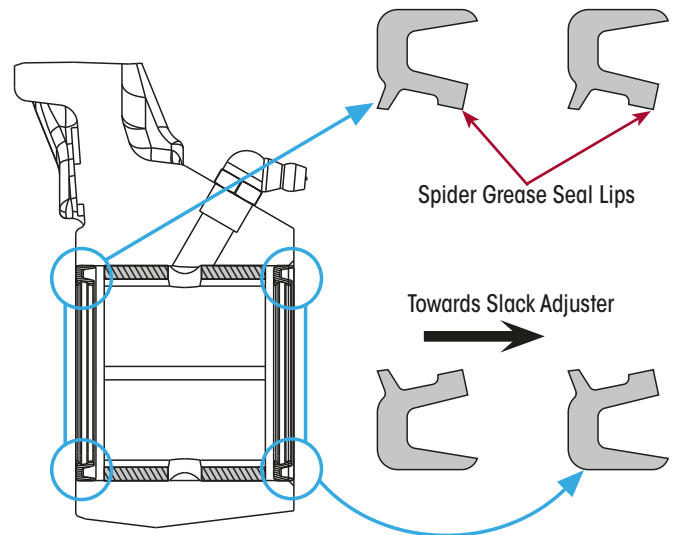

Figure 87: Spider Grease Seal Orientation
5. Install new inner and outer spider grease seals on each side of the spider S-cam bush. Refer Figure 87.